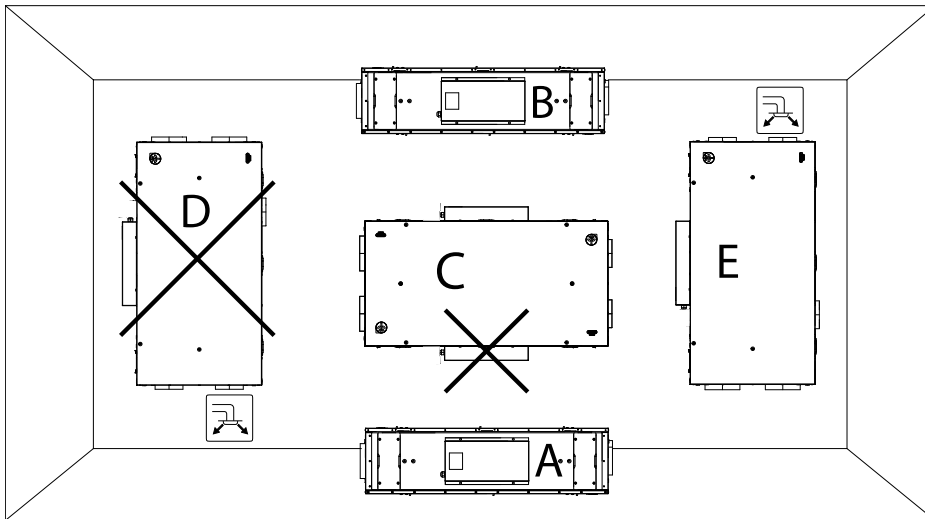

Fig. 3 Possible installation positions
2. For installation positions see figure 3.